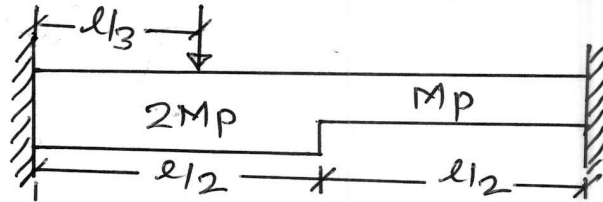

Figure 8
- b) A beam AB of span  $l$  is fixed at both ends. The beam carries a point load  $W$  at a distance  $l/3$  from left end. The plastic moment of resistance of left half of beam is  $2M_p$  while plastic moment of resistance of right half of beam is  $M_p$ . Find the value of load at collapse condition. Refer Figure 8. 10